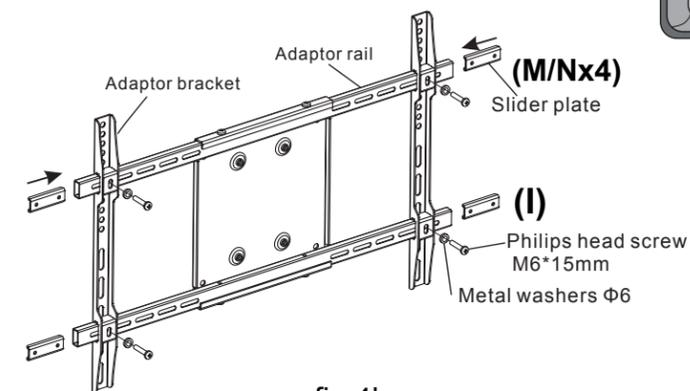

fig.4b
B.2 Insert Slider plate(M/Nx4) into adaptor rails, then insert the adaptor bracket into adaptor rail, fix adaptor bracket and slider plate with four philips head screw M6*15mm (I) and four metal washers $\Phi 6$ (L) using Philips headcrew driver as shown Fig.4b.